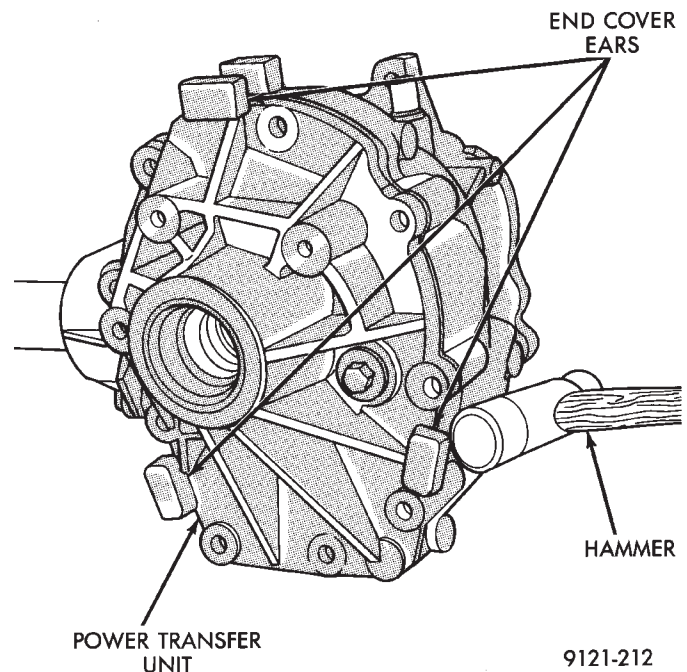
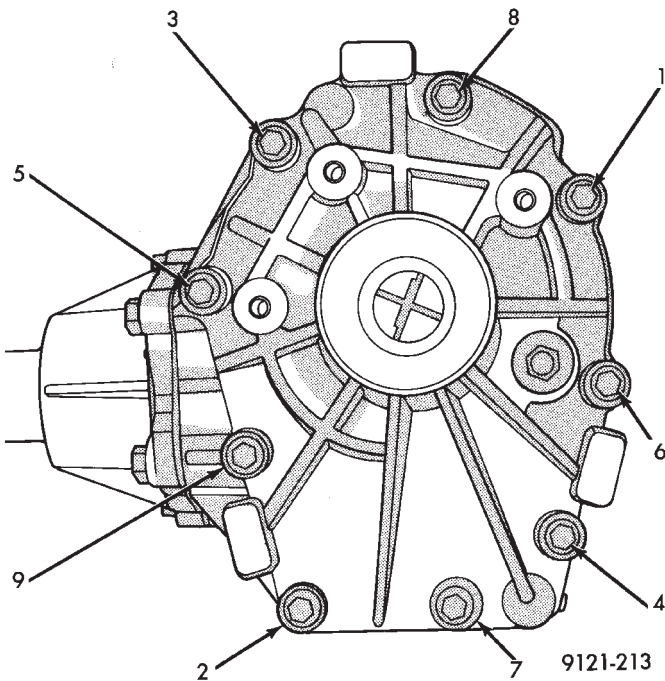

Fig. 14 End Cover Removal
Fig. 15 Bolt Tightening Sequence
- (2) Gently tap on end cover ears with a hammer to separate end cover from the case (Fig. 14).
- (3) Clean and inspect sealer surfaces.
- (4) Apply Mopar® Gasket Maker, Loctite Gasket Eliminator No.518 or equivalent to sealing surfaces.
- (5) Reinstall cover and tighten bolts to 28 N•m (250 in. lbs.) in the sequence shown in figure 15. Retighten first bolt after all others are tight.